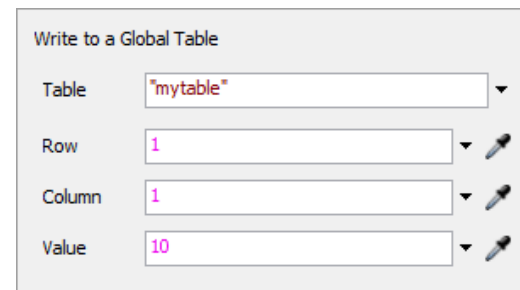

Fig. 10 Option Write to Global Table
4. **Write to Global Table** – writes the specified value (*Value field*) to the selected global table (*Table field*). In the *Row fields* and *Column* – specify the row and column number in which the saved value will be located (Fig. 10).